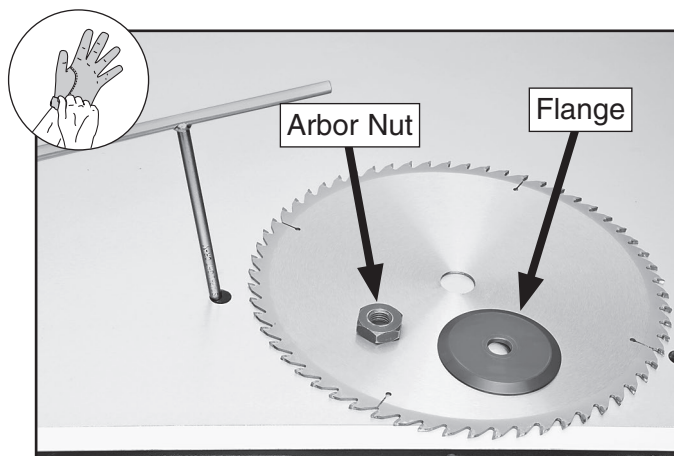

Figure 84. Main blade arbor nut and flange.
- While holding T-handle wrench with one hand, rotate arbor nut clockwise and remove nut, flange, and blade (see **Figure 84**).